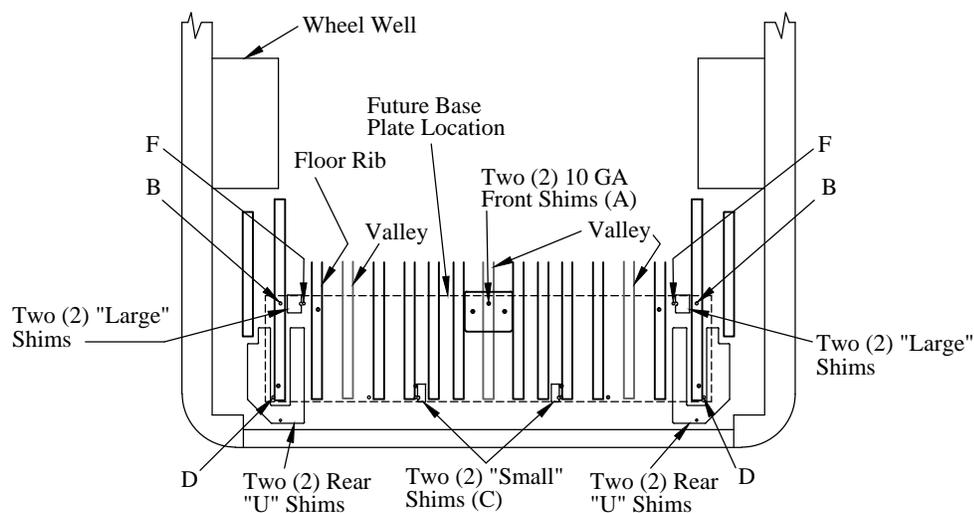

Figure 7: Rib shim locations (top view).
1. **Position** two (2) "U" shaped shims in the spaces between the ribs at each "D" location (Figure 7).
2. **Position** two (2) "small" shims in the spaces between the ribs at each "C" location (Figure 7).
3. **Position** two (2) "large" shims in the spaces between the ribs at each "F" locations (Figure 7).
4. **Position** two (2) front shims in the spaces between the ribs, over the center valley at the "A" location (Figure 7).